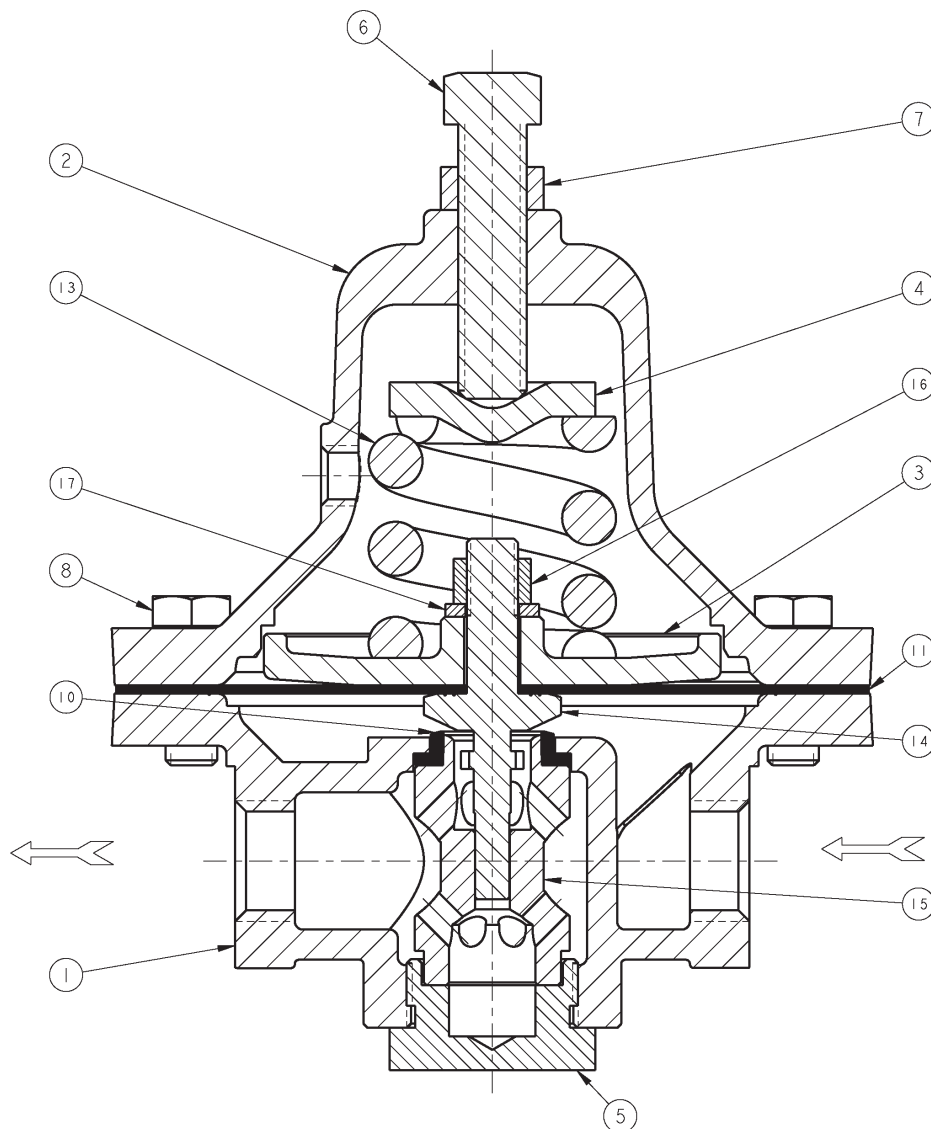

Figure 1
3. Refer to Figure 1 for basic regulator construction. For an angle design with metal seat trim, see Figure 2.